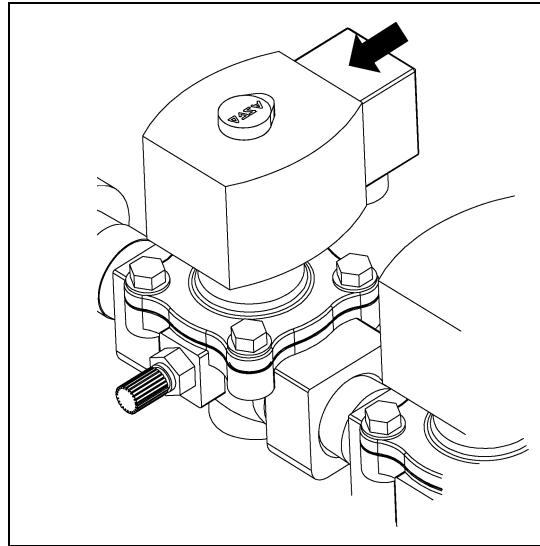

Figure 5W
6. Replace valve power connection. (See Figure 5W.)